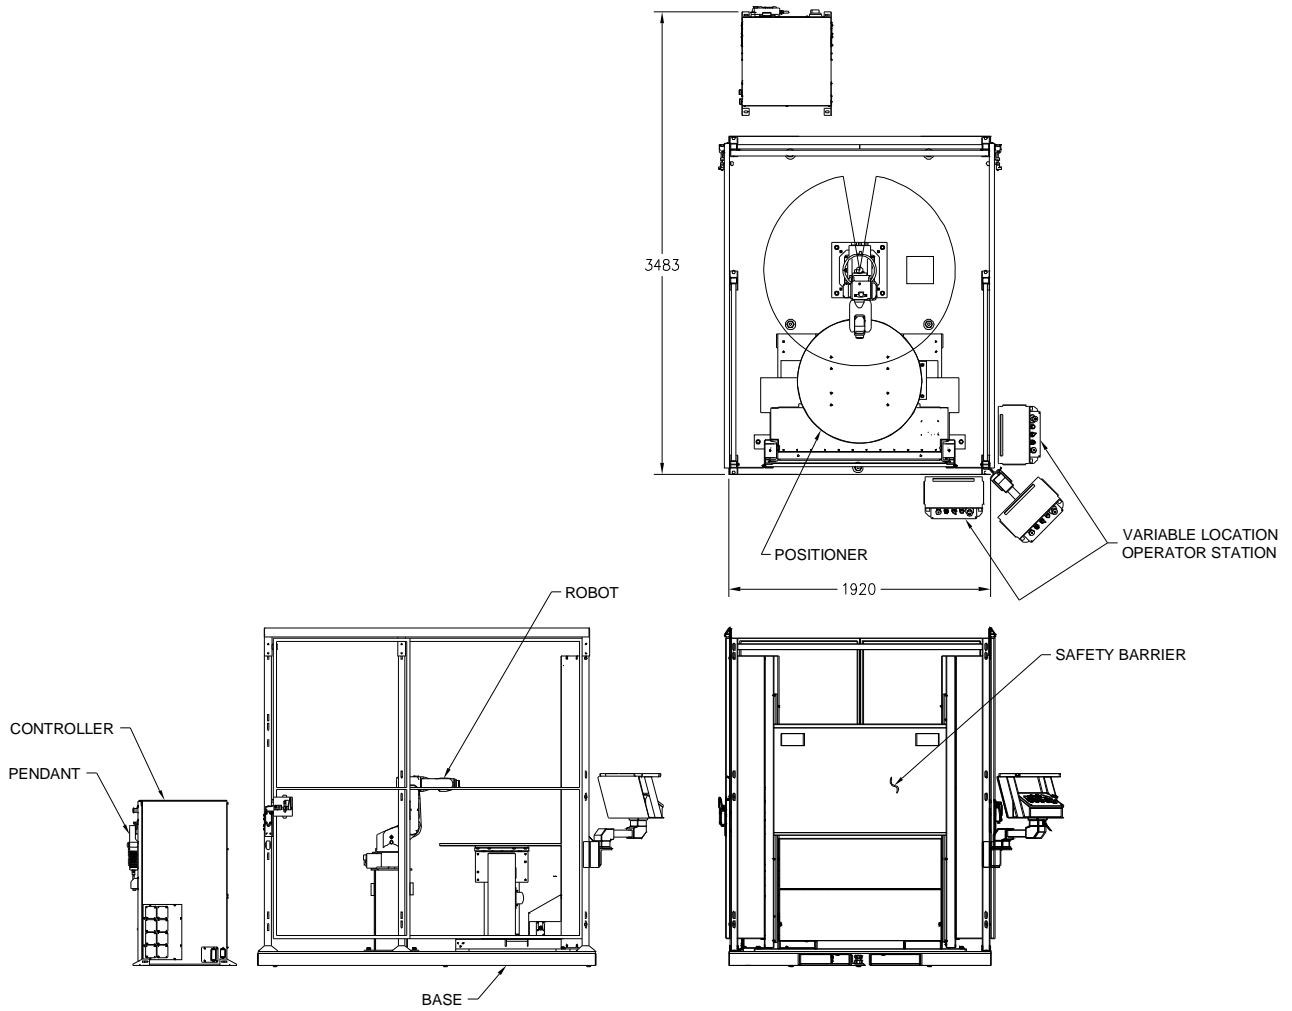

Figure 8 Location of the Controller
3. Place controller approximately 0.6 m (2 ft) behind Process World cell (See Figure 8).